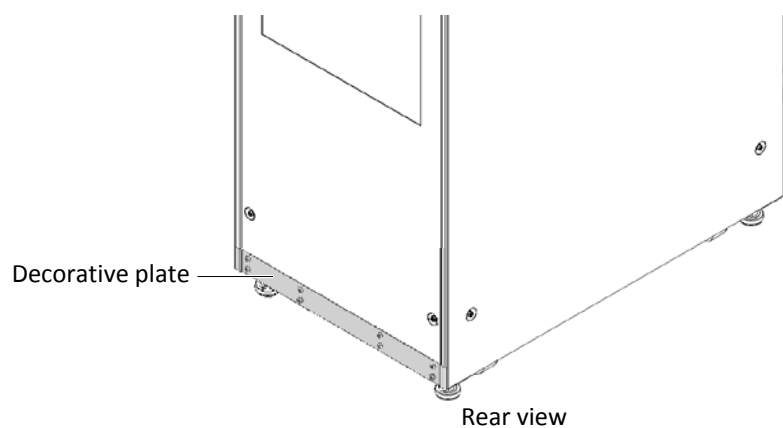

Figure 2-6 Installing decorative plate
4. Refer to Figure 2-6, install the decorative plate at the position of the removed fixed part.